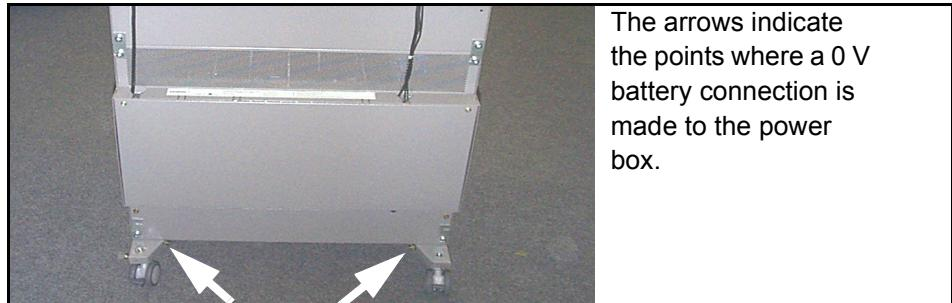

Figure 22 0 V battery connection
1. Connect the 0 V supply from the battery to the roller base of the power box (see Figure 22).